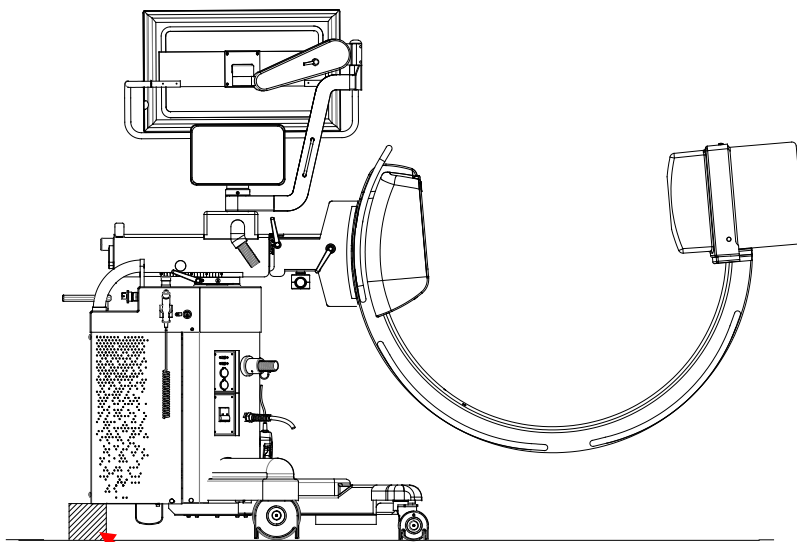

Fig. 4a
Warning: Before dismantling the X-ray monoblock, you must rotate the C-arm as shown in Fig.4a (with the FPD fully extended) and engage the brake (F) on the C-arm support, making sure that this stops the C-arm correctly. You also need to place a wooden block under the stand (see Fig.4a) to prevent the equipment from toppling over when the X-ray monoblock is removed.